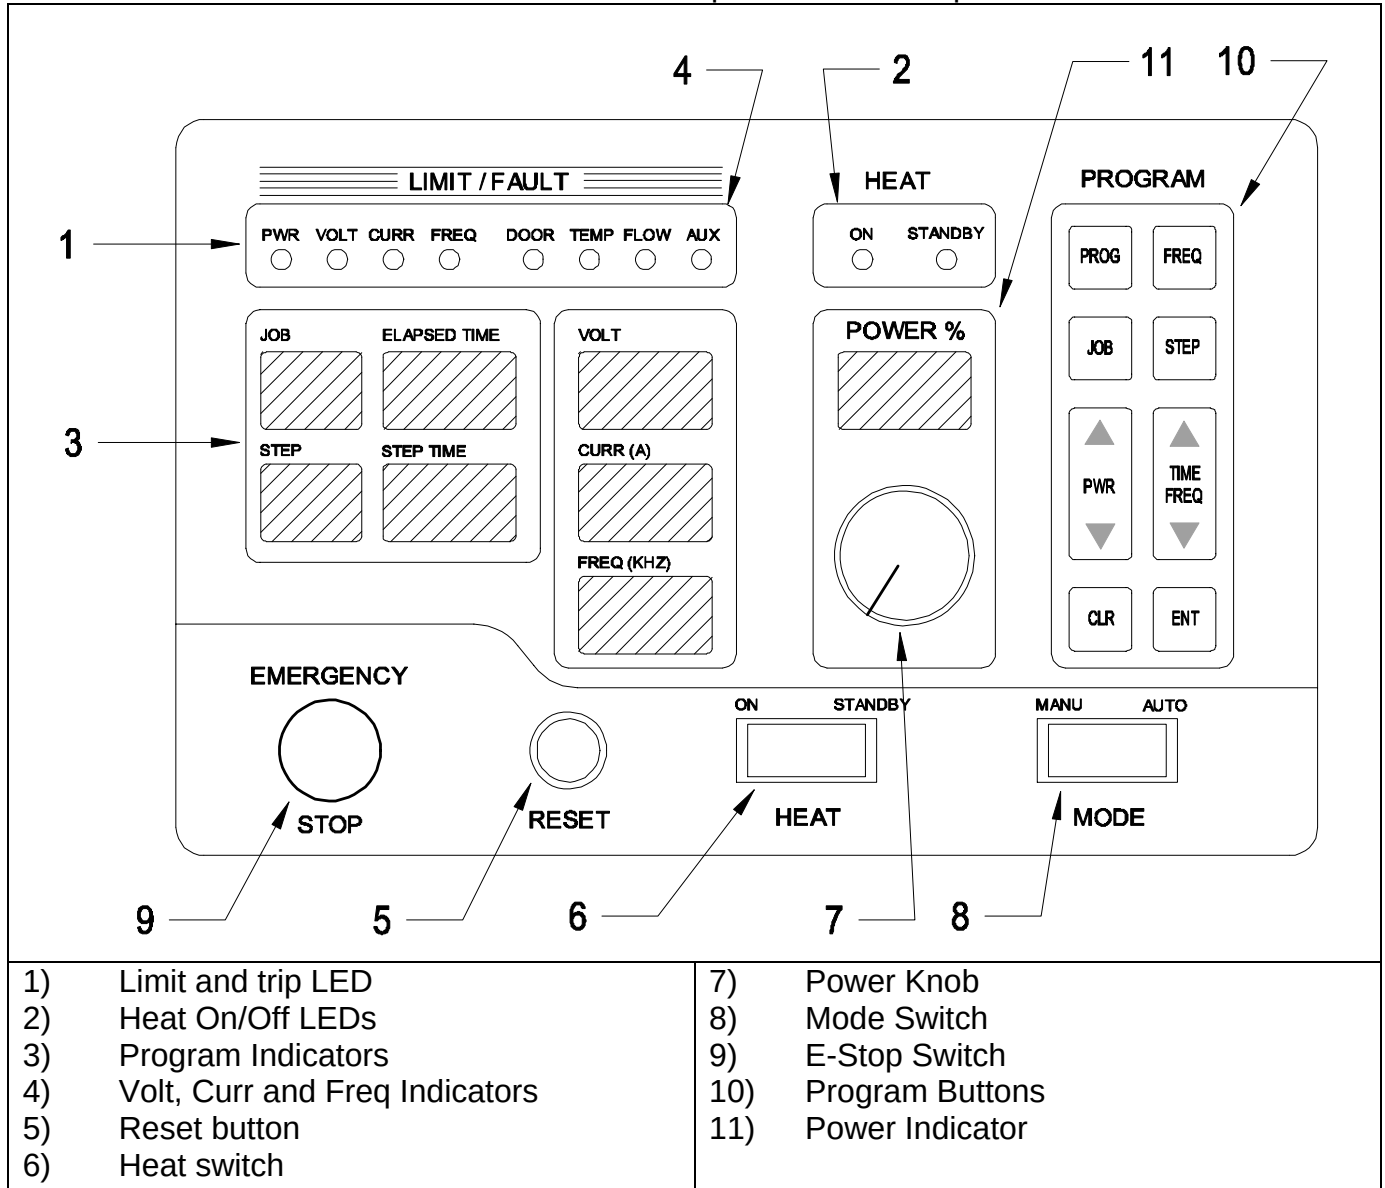

Figure 2: Front panel layout for model 3-135/400-3.
Identified by **1** in Figure 2 on page 9.
These LEDs show whether the power supply is generating output or is off. (identified by ② in Figure 2 on page 9).
Identified by ② in Figure 2 on page 9. These read-outs display the programs status when using the AUTO mode. The STEP TIME indicator display minutes and the ELAPSED TIME indicator displays seconds during manual mode operation.
Identified by ③ in Figure 2 on page 9. These read-outs display the output voltage, the inverter current and the operating frequency when the power supply is operating.
Identified by ⑤ in Figure 2 on page 9. This button is used to clear the fault indicators if a run-time or interlock trip has occurred. Depressing the button will light the limit and trip indicators and clear the latch for the fault indicator. If the LED does not go out, then the reason for the fault is still present.
Identified by ⑥ Figure 2 on page 9. When the power supply is energized, and no fault indicators are lit, putting this switch in the ON (I) position will start the power supply delivering heat. When moved back to the OFF (O) position, the heating will be terminated. While in AUTO mode, the ON position initiates the heat cycle. Putting the HEAT switch in the OFF position will terminate the heat cycle.
Identified by ⑦ in Figure 2 on page 9. The power pot sets the requested power level as indicated by the POWER read-out. The level of power feedback is indicated by the percentage of the LED ring around the POWER POT that is illuminated. This pot is disabled during AUTO mode operation.
Identified by ⑧ in Figure 2 on page 9. In the manual position, MAN, the power supply turns on with the HEAT switch and power level is controlled by the POWER POT. The programming the AUTO mode is done with the MODE switch in the MAN position. In the automatic position, AUTO, the power supply runs programmed jobs. The heat cycle is initiated with the HEAT switch and the power levels and duration of the cycle are controlled automatically, as programmed.
Identified by ⑨ in Figure 2 on page 9. Pressing the E-Stop switch will stop a heat cycle and operate the shunt trip to open the circuit breaker.
Identified by ⑩ in Figure 2 on page 9. The program buttons are used to program and display jobs for the power supply to run automatically. See section 5. on page 13 for a description of how to program the power supply.
Identified by (11) in Figure 2 on page 9. This read-out displays the demand power when the unit is in standby or program mode, and displays the power output when the heat cycle is in progress.
1. Ensure that the heat switch on the front panel is in the OFF position, that the MODE selection switch is in the MAN (manual) position and that the power level knob is turned fully counter-clockwise (see Figure 2 on page 9). Turn on the circuit breaker. The green STANDBY indicator should light up, indicating that the unit is powered up. Press the reset button if any red trip indicators are lit.